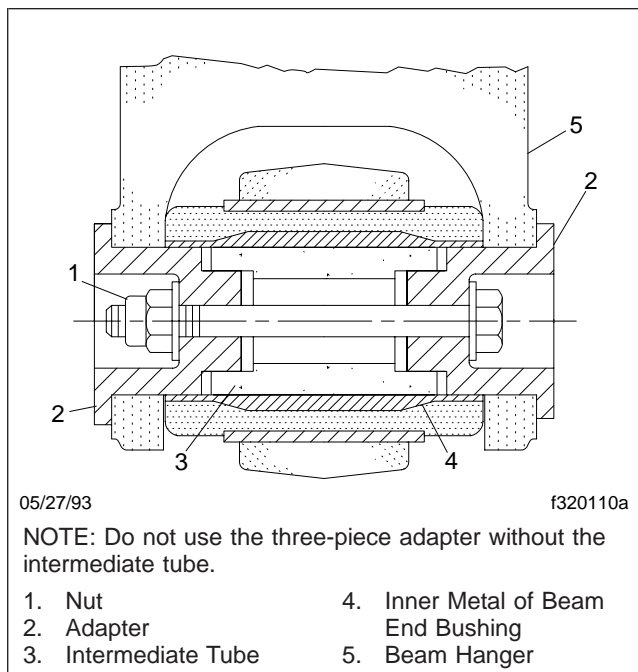

Fig. 6, Three-Piece Adapter-Type Beam End Connection
7. Remove the washer-head capscrew that secures the filter to the transmission, then remove the filter and the filter intake pipe from the transmission. See Fig. 6.